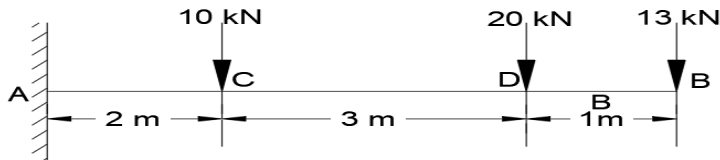

Fig. No. 3
- C) Determine slope and deflection at the free end and at point C, 2 m from fixed end A for the cantilever beam shown in fig. No. 3 using moment area method. A/CO-6 6